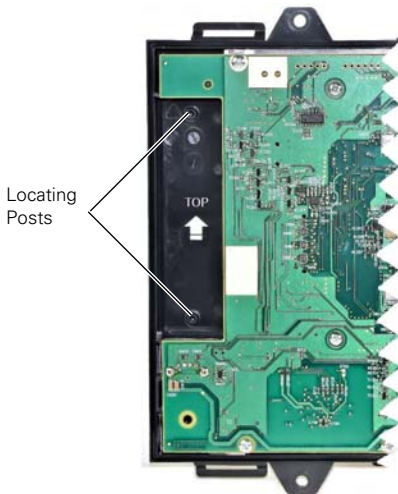

Fig. 9: Compact Network Repeater - Rear View of Front Cover
- 1 Inside the front cover of the repeater, identify the exposed edge of the flexible plastic 'insert' labelled as 'TOP', which is just behind the PCB. Refer to Fig. 9.